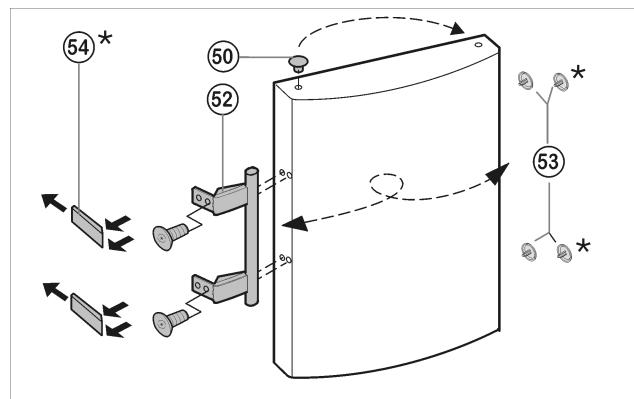

Fig. 13
- Pull plugs Fig. 13 (50) out of the door bearing bushes and move them to the other side.
- Detach the door handle Fig. 13 (52), plug Fig. 13 (53) and pressure plates* Fig. 13 (54) and move them to the opposite side.